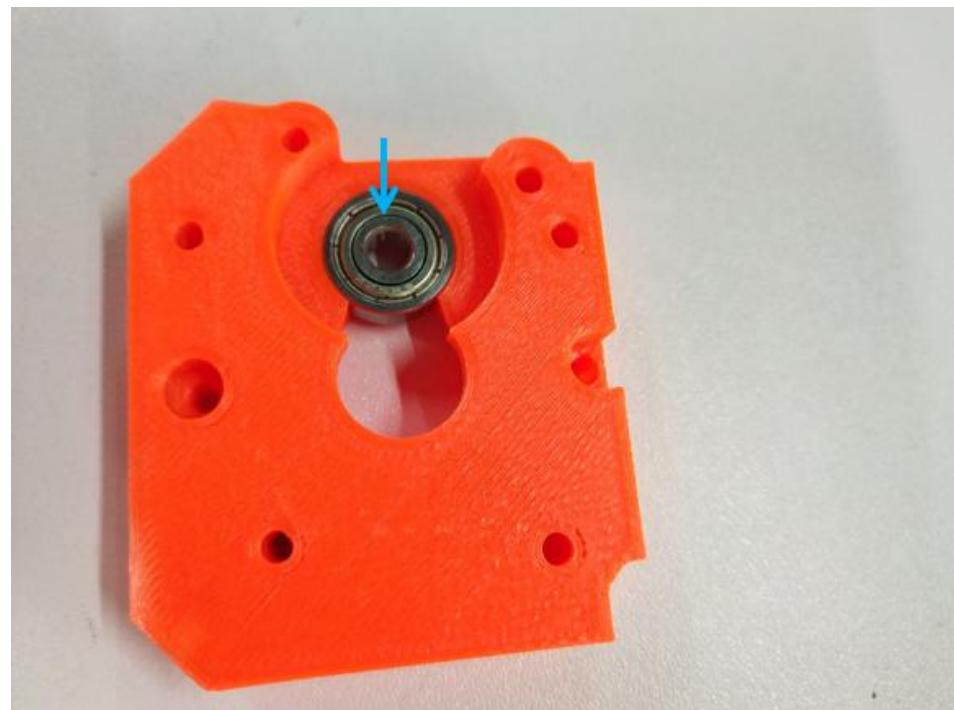

Figure 2.1.3
**Step 2-1-3:** As shown in Figure 2.1.3, embed a 625ZZ ball bearing into the bearing mounting hole on the MINI-extruder-front, paying attention that the end face of the bearing is flush with the end face of the print.